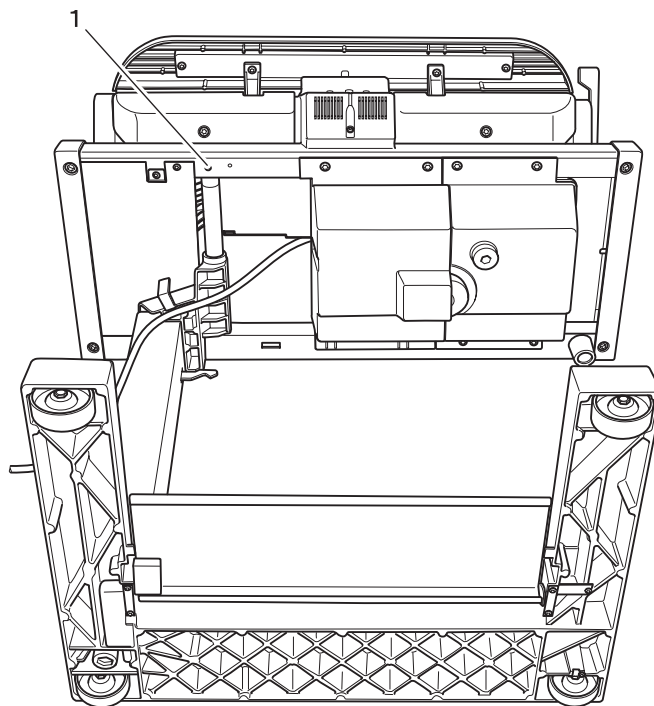

Fig. 18
- Remove screw 1 (fig. 18).
- Fit swivel arm complete with the machine base (fig. 18).